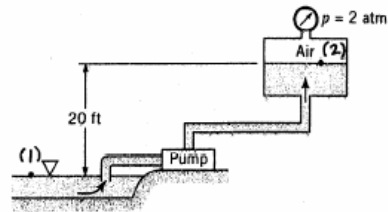

FIGURE P5.109
5.109 A pump is to move water from a lake into a large, pressurized tank as shown in Fig. P5.109 at a rate of 1000 gal in 10 min or less. Will a pump that adds 3 hp to the water work for this purpose? Support your answer with appropriate calculations. Repeat the problem if the tank were pressurized to 3, rather than 2, atmospheres.